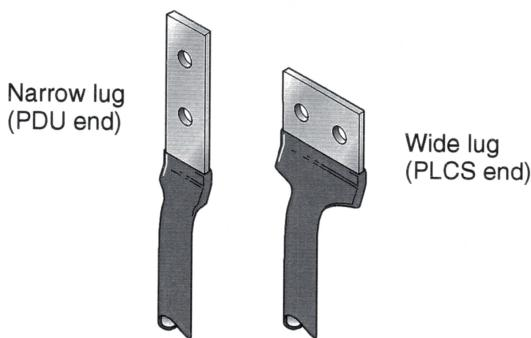
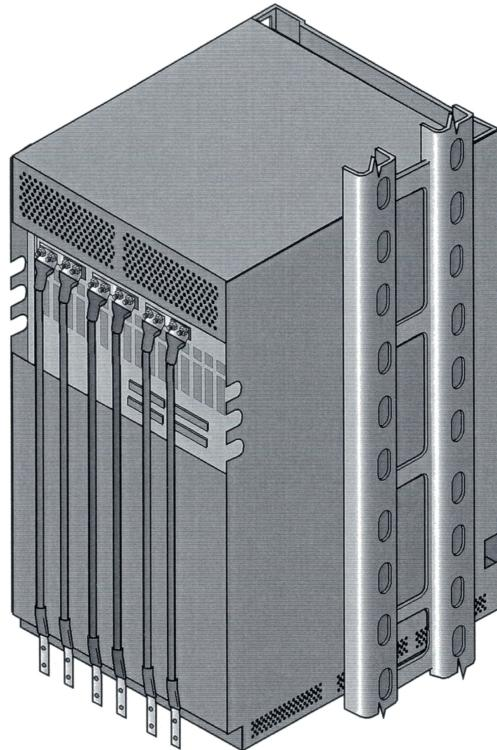

Figure 28 Two-Hole Lugs on a PLCS Cable
Figure 29 PLCS with Power and Return Cables Connected (Rear view)
NOTE: Each of the power and return cables for the PLCS terminates at a two-hole lug at each end. The wider lug connects to the PLCS, and the narrower lug connects to the PDU. See Figure 28.
3. Making sure to use the ends with the wider lugs (see Figure 28), connect the four red power cables to the two outside terminal strips labeled -48VB and -48VA, and secure with the No. 10 nuts. See Figure 29.
4. Making sure to use the ends with the wider lugs, connect the two black return cables to the middle terminal strip labeled -48V RTN, and secure with the remaining No. 10 nuts. See Figure 29.